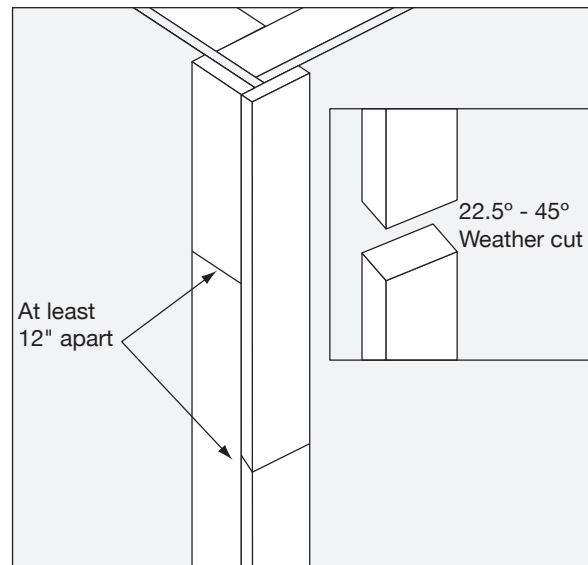

Fig. 10
- In situations where the height of the home requires more than one piece of corner trim installed vertically, create a 22.5°-45° weather cut at the butt joints where angle will slope down and away from the building **(Fig. 10)**
- Stagger joints on both sides of the corner **(Fig. 10)**